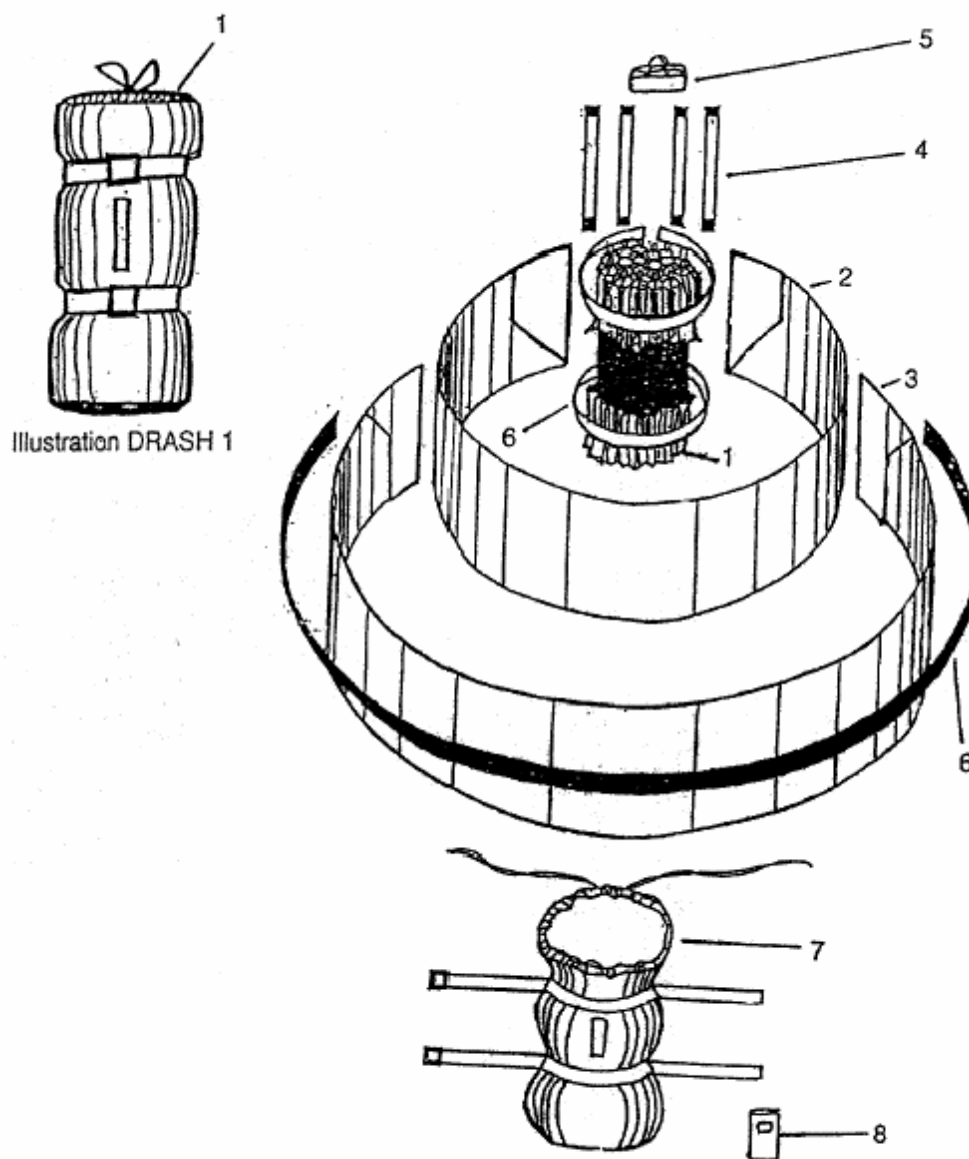

Figure 5-1 - DRASH Shelter Component Detail
Refer to Figure 5-1, Illustration DRASH 1
Refer to Figure 5-1, Illustration DRASH 2
- 1) Numbered items are not related to illustration numbers shown in Figure 5-1.